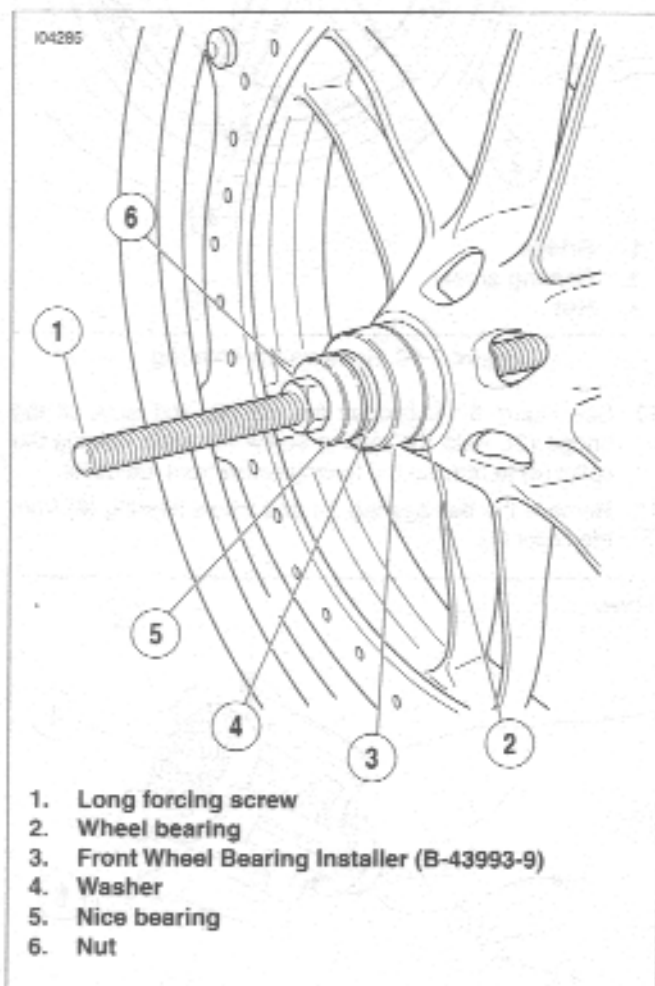

Figure 2-14. Install Bearing
2. See Figure 2-14. Sparingly apply Extreme Pressure Lubricant (J-23444-A) to the threads of the long forcing screw (1) to prolong service life and ensure smooth operation.